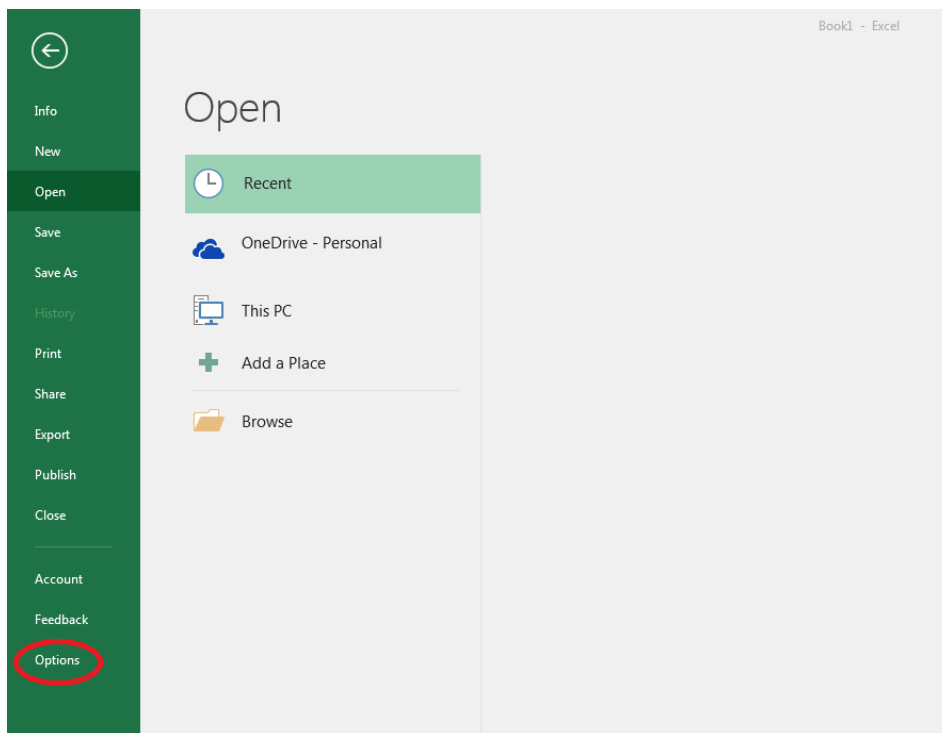

Figure 2.3: Registering FluidEXL^{Graphics}Stud as Add-In in Excel[®]
- Click on the "Options" button in the menu which appears (see Figure 2.3)